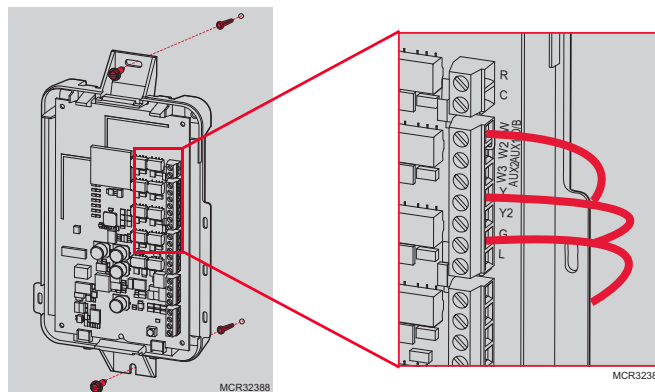

Fig. 4.
2. To wire the EIM, strip 1/4” insulation, then insert wires (see Fig. 4). For wiring diagrams, see “Wiring” beginning on page 102.